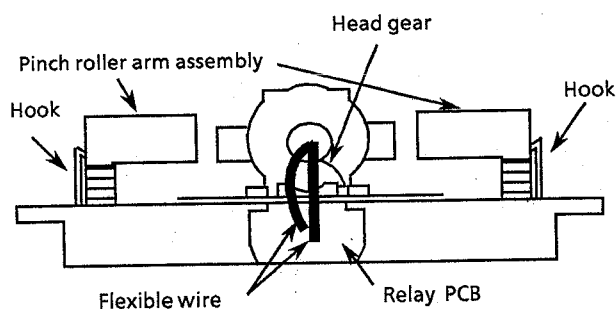

Figure 13 Bottom view of the cassette mechanism
2. Unsolder the flexible wire on the relay PCB, and remove the 2 screws ⑤ fixing the head assembly (Figure 13,14).
2. Remove the hooks fixing the pinch roller arm assembly, and remove the pinch roller assembly (Figure 13).